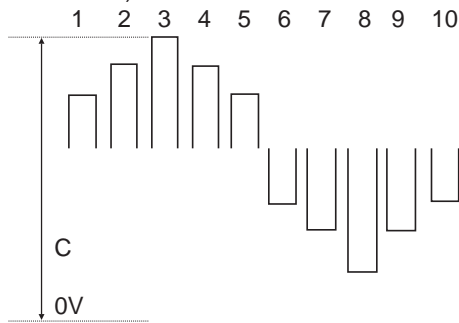

Fig. 1
- 2.1. Adjust [C] for  $5.0 \pm 0.2V$  through the BRIGHT control variation according to fig. 1.
- 2.2. Adjust the NTSC SUB-TINT level according to fig. 1 positions 2, 3 and 4.